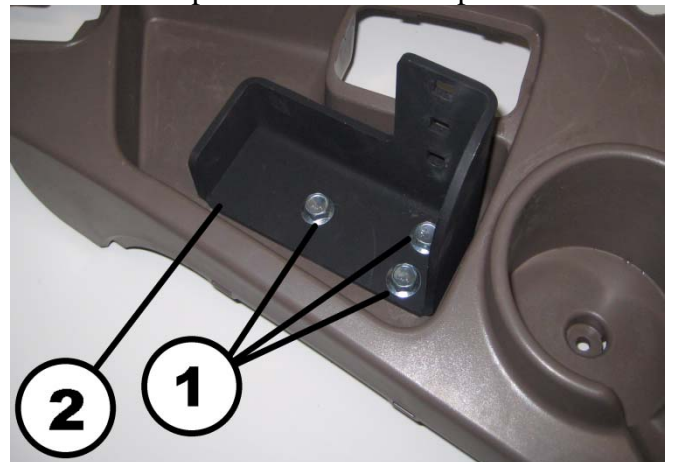

Figure 5. Installation of Hardware
- 4/ Install upper bracket to the console as indicated in Figure 5. Install backing plate on bottom side as indicated in Figure 6 using 5/16" x 1" Flange head bolts with 5/16" Flange Nuts. Reinstall the access panel removed in step 1.